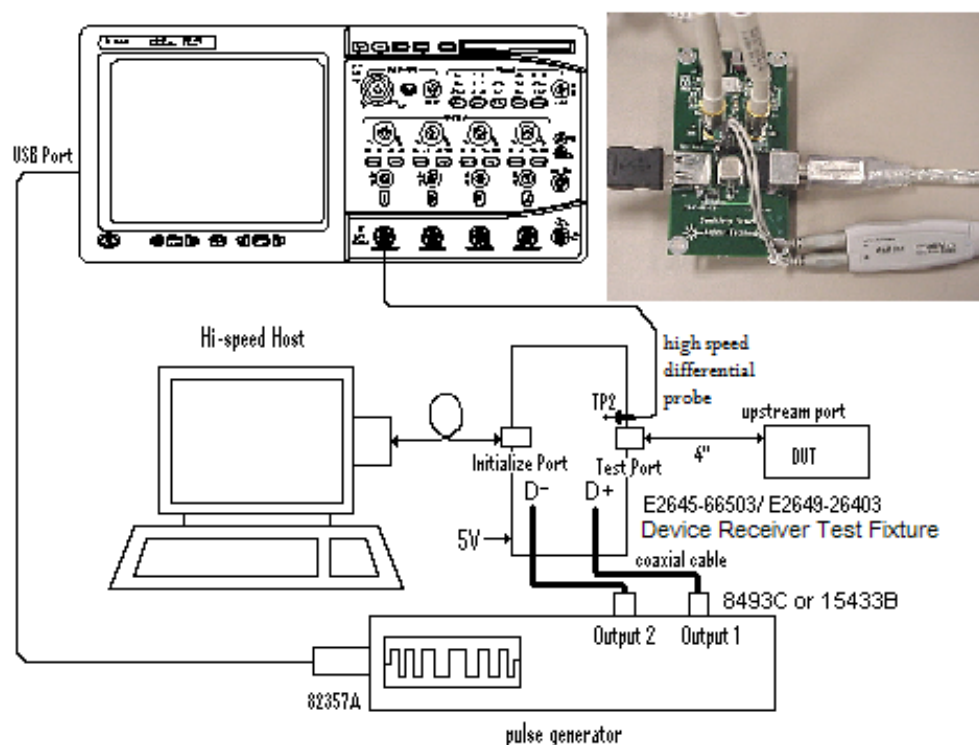

Figure 56. Device Receiver Sensitivity Test environment
2. Connect the equipment and test fixture as shown in Figure 56.